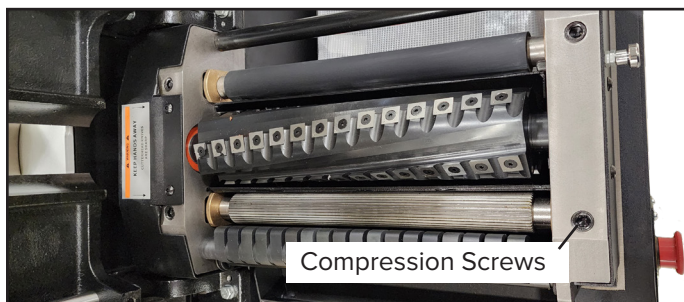

Figure 22: Tightening the Rollers
6. Beneath the Cutter block Brackets, the Tightening Screws secure the compression Springs onto the brass Shaft Sleeves. Utilize a wrench to adjust the feed rollers via the bottom Hex Bolts. See Fig. 22.
7. Once the desired pressure is achieved, secure the Bolts (Fig. 22) in place by tightening the Nuts, reattach the guards, lower the jointer table with fence & guard, and the machine is ready for operation.
5. The setting of the Feed Roller Chain (#227) FIG. 22) is preset at the factory and typically does not need adjustments. However, to modify the chain overlap, adjust the Pulley with Sleeves (#32, E) by moving it in or out using its center Bolt and Nut (#20 & #31).